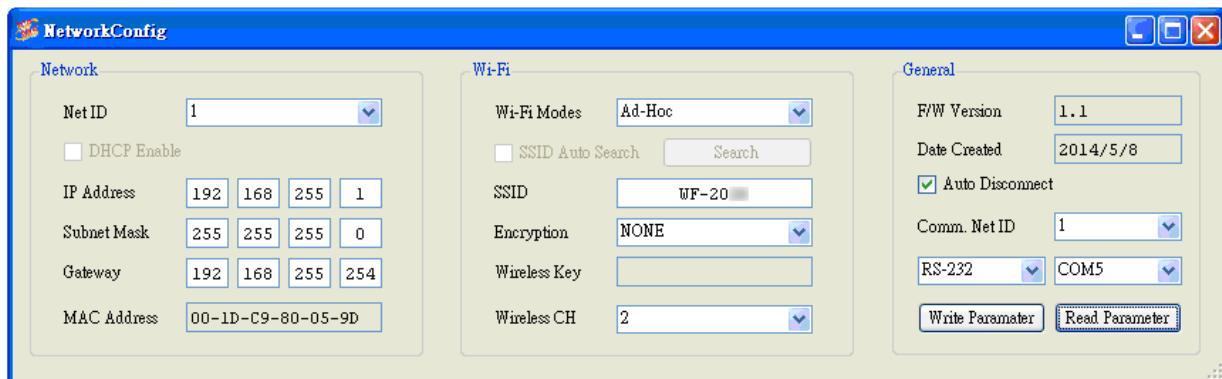

Figure 4-2 Configuration Interface
- 01、Net ID : The Unit Identifier in Modbus TCP/IP application data unit. This case is set as "1" in Figure 4-2.